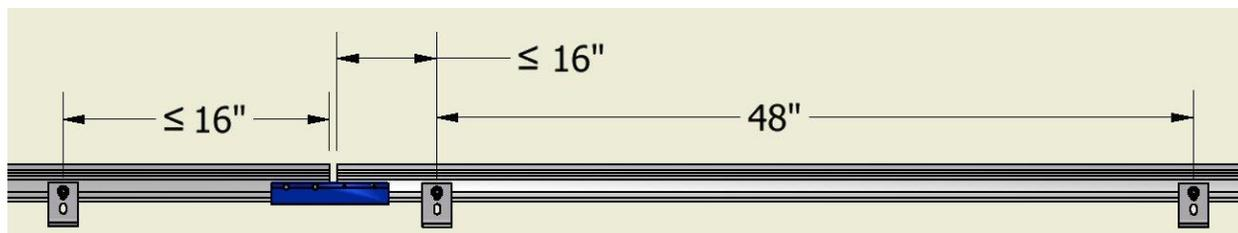

Figure 2
2) An expansion joint is where the ends of 2 rails are aligned with a splice bar, but is fastened to only one of the rails. Use 2 fasteners to attach the splice bar to the chosen rail and leave a minimum gap of $\frac{1}{2}$ ” between the adjacent rail ends. An expansion joint must not be spanned by a PV module. This would prevent thermal expansion and contraction of the rail run. The location of an expansion joint must be less than or equal to $\frac{1}{3}$ of the engineered span from either attachment. For example, between a 48” engineered span the expansion joint must be within 16” from either attachment as shown in Figure 2.